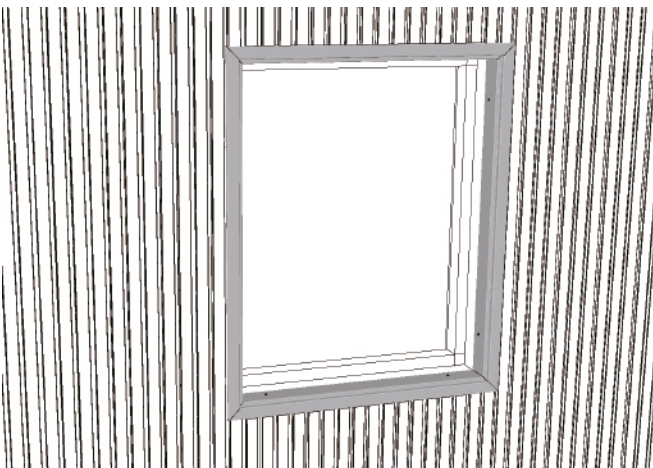

Fig24-3
3..Complete the installation of the wall cladding together with the normal large wall surface.As shown in Figure 24-3: